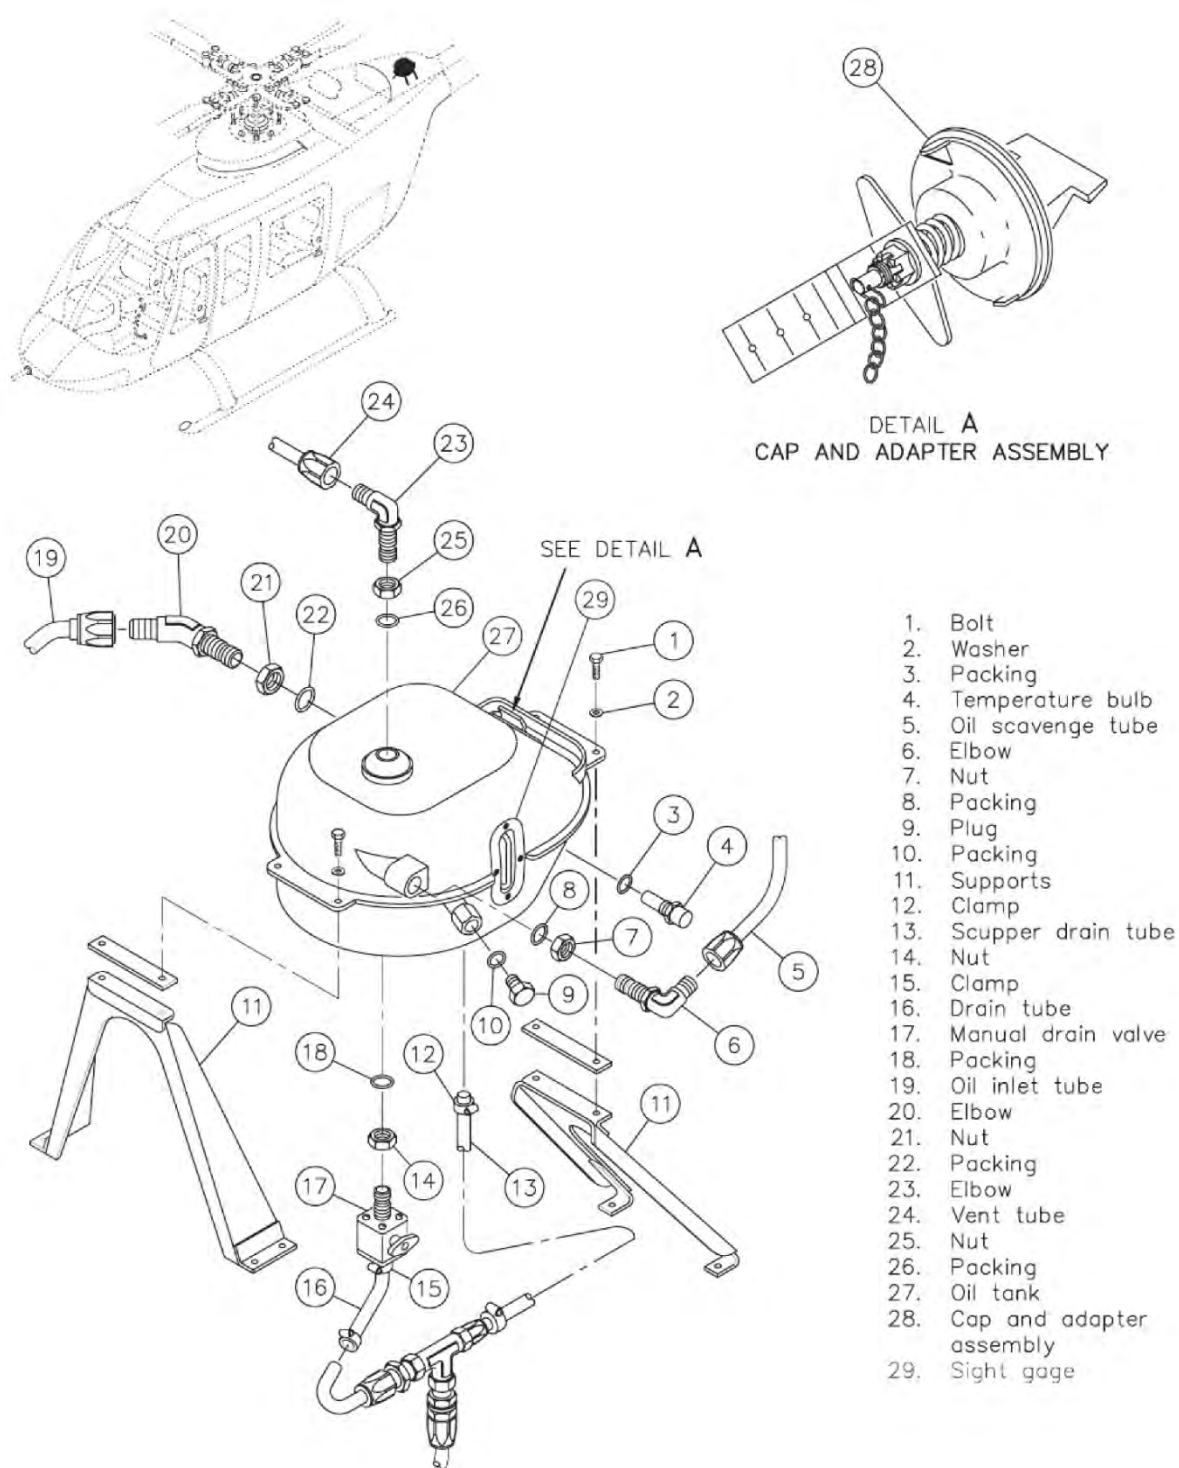
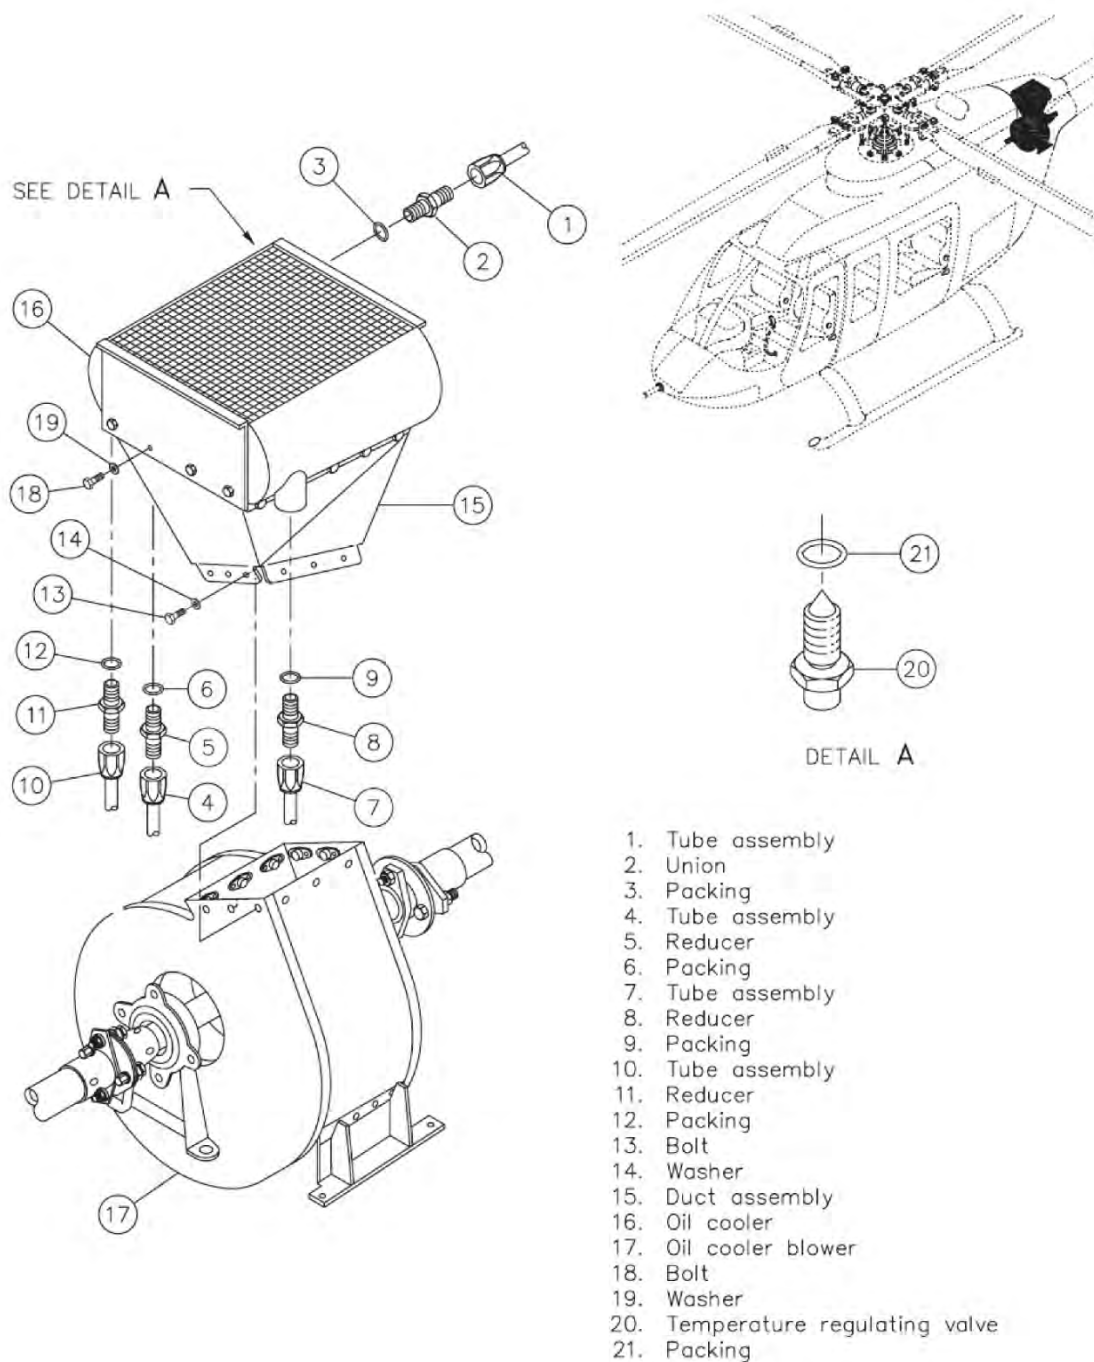

Figure 79-3 Oil Tank
Figure 79-4 Oil Cooler
- a. Disconnect and remove the oil inlet tube (19, Figure 79-3) from the elbow (20) on the oil tank (27).
The oil tank (27, Figure 79-3) has a normal fluid capacity of 1.5 gallons (5.7 L). You can see the oil level through the sight gage (29) or measure the oil level with the cap and adapter assembly (28). A dipstick is attached to the cap and adapter assembly. The oil tank includes ports for the vent tube (24), the oil inlet tube (19), the oil scavenge tube (5), the oil temperature bulb (4), and for the oil tank manual drain valve (17).
3. Open the oil tank manual drain valve (17, Figure 79-3) and drain the oil tank (27).
4. Disconnect and remove the oil tank vent tube (24) from the elbow (23).
5. Loosen the nut (25). Remove the elbow (23) and the packing (26) from the oil tank (27). Discard the packing.
6. Disconnect and remove the oil scavenge tube (5) from the elbow (6).
7. Loosen the nut (7). Remove the elbow (6) and the packing (8) from the oil tank (27). Discard the packing.
8. Remove the oil temperature bulb (4) and the packing (3) (Chapter 95).
9. Disconnect and remove the engine oil inlet tube (19) from the elbow (20).
10. Loosen the nut (21). Remove the elbow (20) and the packing (22) from the oil tank (27). Discard the packing.
11. Remove the clamp (15) from the oil tank drain tube (16). Remove the drain tube (16) from the oil tank manual drain valve (17).
12. Loosen the nut (14). Remove the oil tank manual drain valve (17) and the packing (18). Discard the packing.
13. Remove the clamp (12) from the scupper drain tube (13). Remove the scupper drain tube.
2. Examine the forward and aft supports (11, Figure 79-3) for signs of cracks, for damage to the nutplates, and for security of the rivets.
3. Examine the manual drain valve (17) for proper operation. Examine the drain tubes (13 and 16) for signs of leaks.
1. Put the oil tank (27, Figure 79-3) in position on the forward and aft supports
(11). Use the four bolts (1) and the washers (2) and attach the oil tank to the supports.
The oil cooler (16, Figure 79-4) is installed on the duct assembly (15). This duct assembly is installed on the oil cooler blower between the aft firewall and the forward face of the engine oil tank (27, Figure 79-3). The oil cooler is a transmission oil cooler and an engine oil cooler. The tail rotor driveshaft drives the fan that supplies and moves the air through the oil cooler (Chapter 65). The oil cooler is a dual element heat exchanger. One heat exchanger cools the engine oil. The other heat exchanger cools the transmission oil. The oil cooler has a temperature regulating relief valve. This valve regulates the engine oil temperature. This valve starts to close at 160 °F (71 °C) and is fully closed at 178 °F (81 °C). If the system pressure goes above 25 pounds per square inch (PSI) the pressure relief part of the valve opens the valve fully.
3. Open the oil tank manual drain valve (17, Figure 79-3) and drain the oil tank and the oil cooler.
4. Disconnect and remove the tube assembly (1, Figure 79-4) from the union (2).
1. Examine the oil cooler (16, Figure 79-4) as follows:
2. Examine the duct assembly (15) as follows:
- a. Examine the duct assembly (15) for signs of damage, cracks, or dents.
- b. Examine the duct assembly (15) for loose rivets.
c. Examine the duct assembly (15) for signs of damage to the mounting holes.
3. Install the packing (21, Figure 79-4) on the temperature regulating valve (20).
4. Install the temperature regulating valve (20) in the port of the oil cooler (16). Use lockwire (C-405) and safety the temperature regulating valve (20).
5. Put the oil cooler (16) in position on the duct assembly (15). Use the 18 bolts (18) and the washers (19) and install the oil cooler.
6. Put the oil cooler (16) and the duct assembly (15) (as an assembly) in position on the oil cooler blower (17). Use the 12 bolts (13), the washers (14), and install the assembly.
7. Install the packing (12) on the reducer (11).